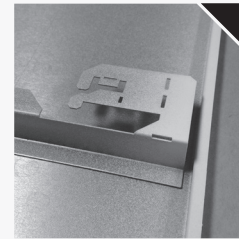

FIG. 1
- 1** Deploy the seismic securing brackets to match the ceiling grid web height as shown in figures 1 and 2.